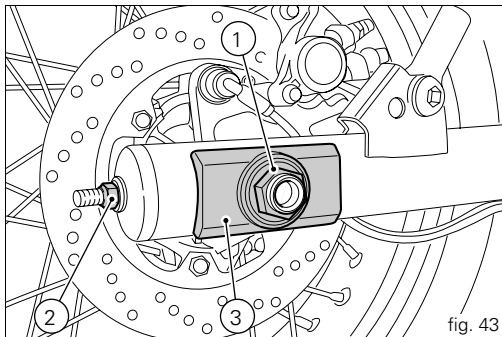

fig. 43
To adjust the tension, loosen the axle nut (1, fig. 43) and screw in the adjuster screws (2) on both sides of the swingarm by the same amount to tighten the chain or unscrew them to slacken it. In the latter case, you will need to push the wheel forward.
Check that the notches in the sliders (3, fig. 43) on both sides of the swingarm are lined up with the same positioning marks (A) to ensure that the wheel is aligned correctly. Grease the thread of the axle nut (1) with SHELL Retinax HDX2 and tighten to a torque of 72 Nm. Grease the threads of the adjuster nutss (2) with SHELL Alvania R3 and tighten to a torque of 8 Nm.